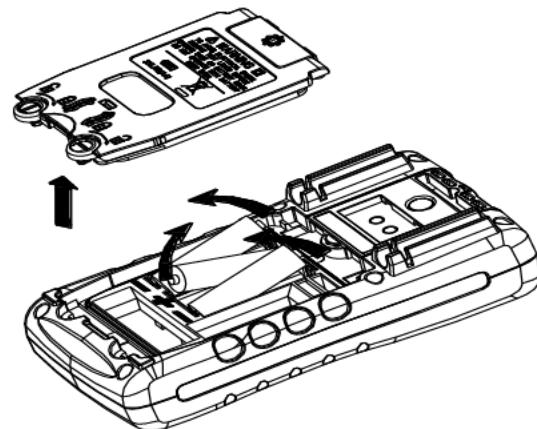

Figure 10. Replace the battery
Step 2: Use a slotted screwdriver to rotate the battery door screw by a quarter turn counterclockwise and remove the battery door, as shown in Figure 10.